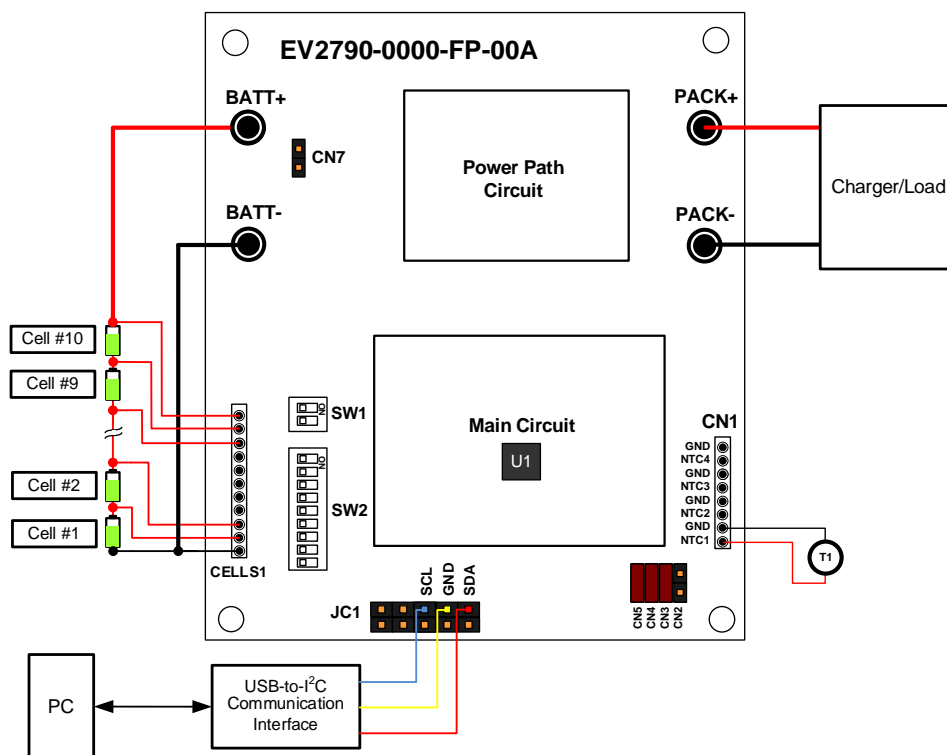
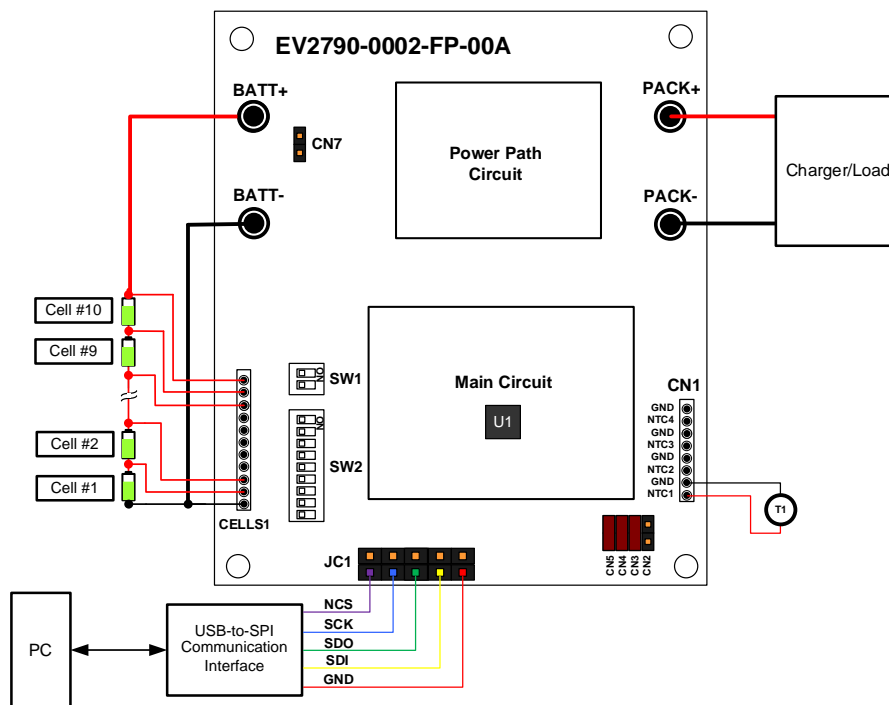

Figure 9: EV2790-0000-FP-00A Wire Connection
Figure 10: EV2790-0002-FP-00A Wire Connection
9. If using the EV2790-0000-FP-00A, connect SDA, SCL, and GND to the USB-to-I²C communication interface (see Figure 9 on page 10). If using the EV2790-0002-FP-00A, connect NCS, SCK, SDO, SDI, and GND to the USB-to-SPI communication interface (see Figure 10 on page 10).